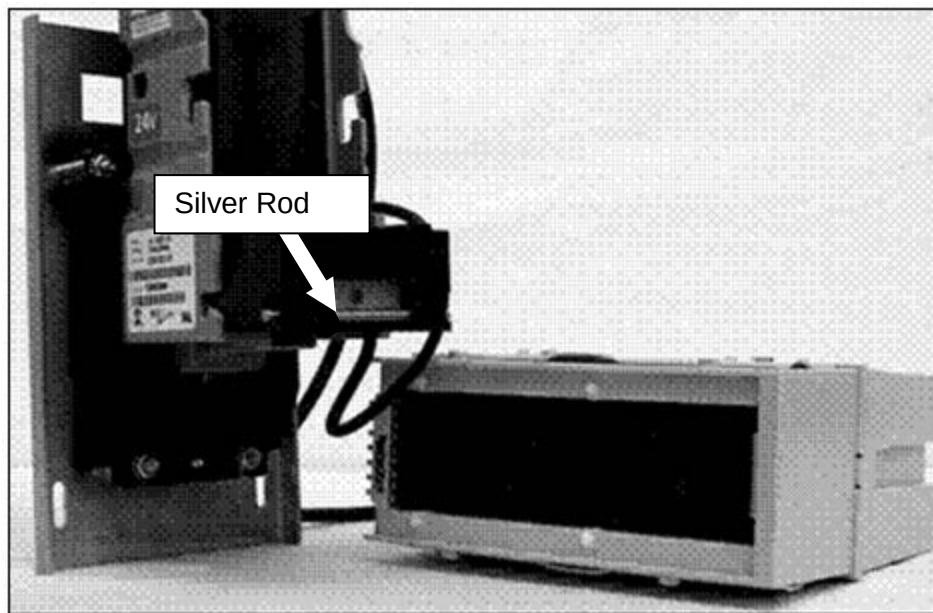

Figure 15. MEI with Lower Housing
5. Reach under the bottom of the acceptor and locate a silver rod in the area below where the status LED is located (see Figure 15).